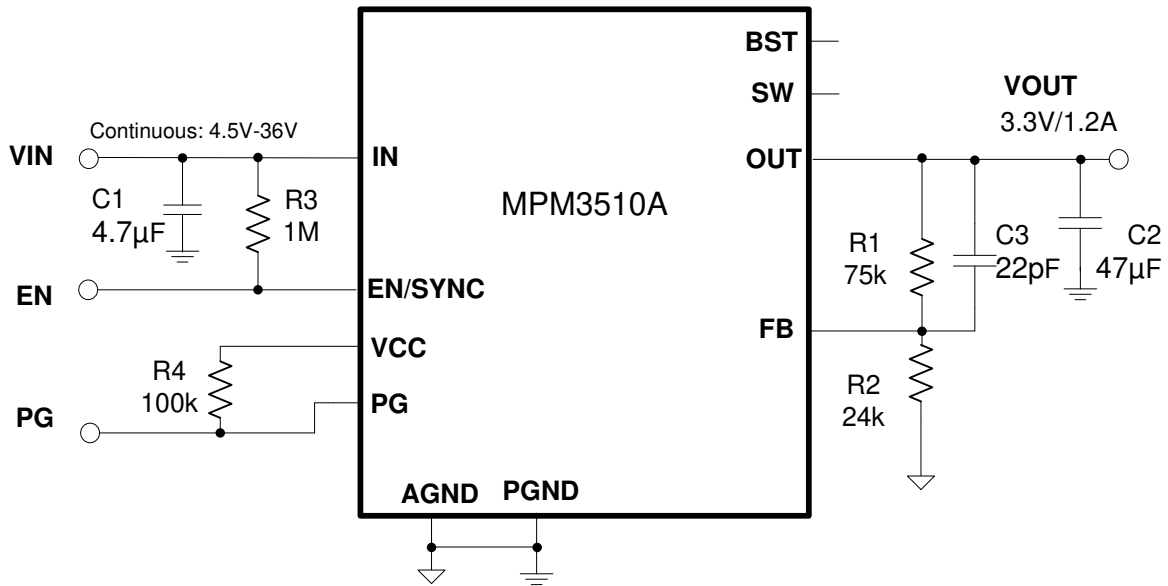

Figure 8: V_{OUT} = 3.3V, I_{OUT} = 1.2A
- 8) The recommended layout is based on Figure 8 and the "Typical Application Circuits" on page 18.
The detailed application schematic is shown in Figure 8. The typical performance and circuit waveforms have been shown in the “Typical Performance Characteristics” section. For additional device applications, please refer to the related evaluation board datasheets.